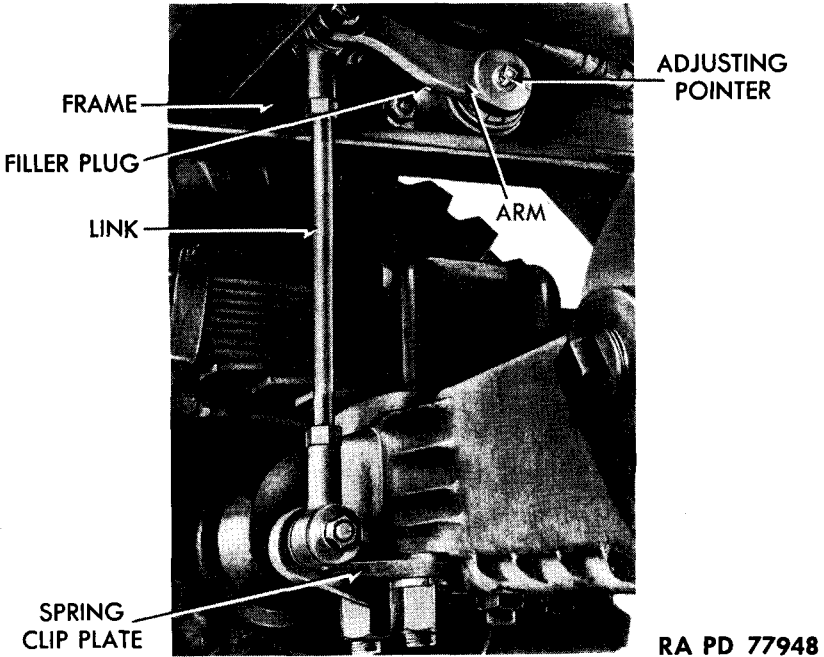

Figure 85 — Front Shock Absorber Installed
(1) **DESCRIPTION** (figs. 85 and 86). Four shock absorbers are attached to inside of frame side rails. The front shock absorbers are in front of front axle, and the rear shock absorbers are behind rear axle. Shock absorbers are a double acting, oscillating-vane type. They are used to control spring action, and offer more resistance to spring recoil than to spring compression.
(1) **MAINTENANCE** (figs. 85 and 86). Check fluid level and refill, if necessary. To fill shock absorber, observe the following procedures:
(2) **ADJUSTMENT** (figs. 85 and 86). No adjustment of links is required. Shock absorber arm tension is increased or decreased by turning an adjusting pointer outside the shock absorber. Turn pointer counterclockwise to increase resistance, or clockwise to decrease resistance. Make adjustment one mark or $\frac{1}{16}$ inch at a time. **NOTE:** *Full range of adjustment is one-half turn or between the two stops. Do not turn pointer beyond these stops.*
c. Removal (figs. 85 and 86).
d. Installation (figs. 85 and 86).